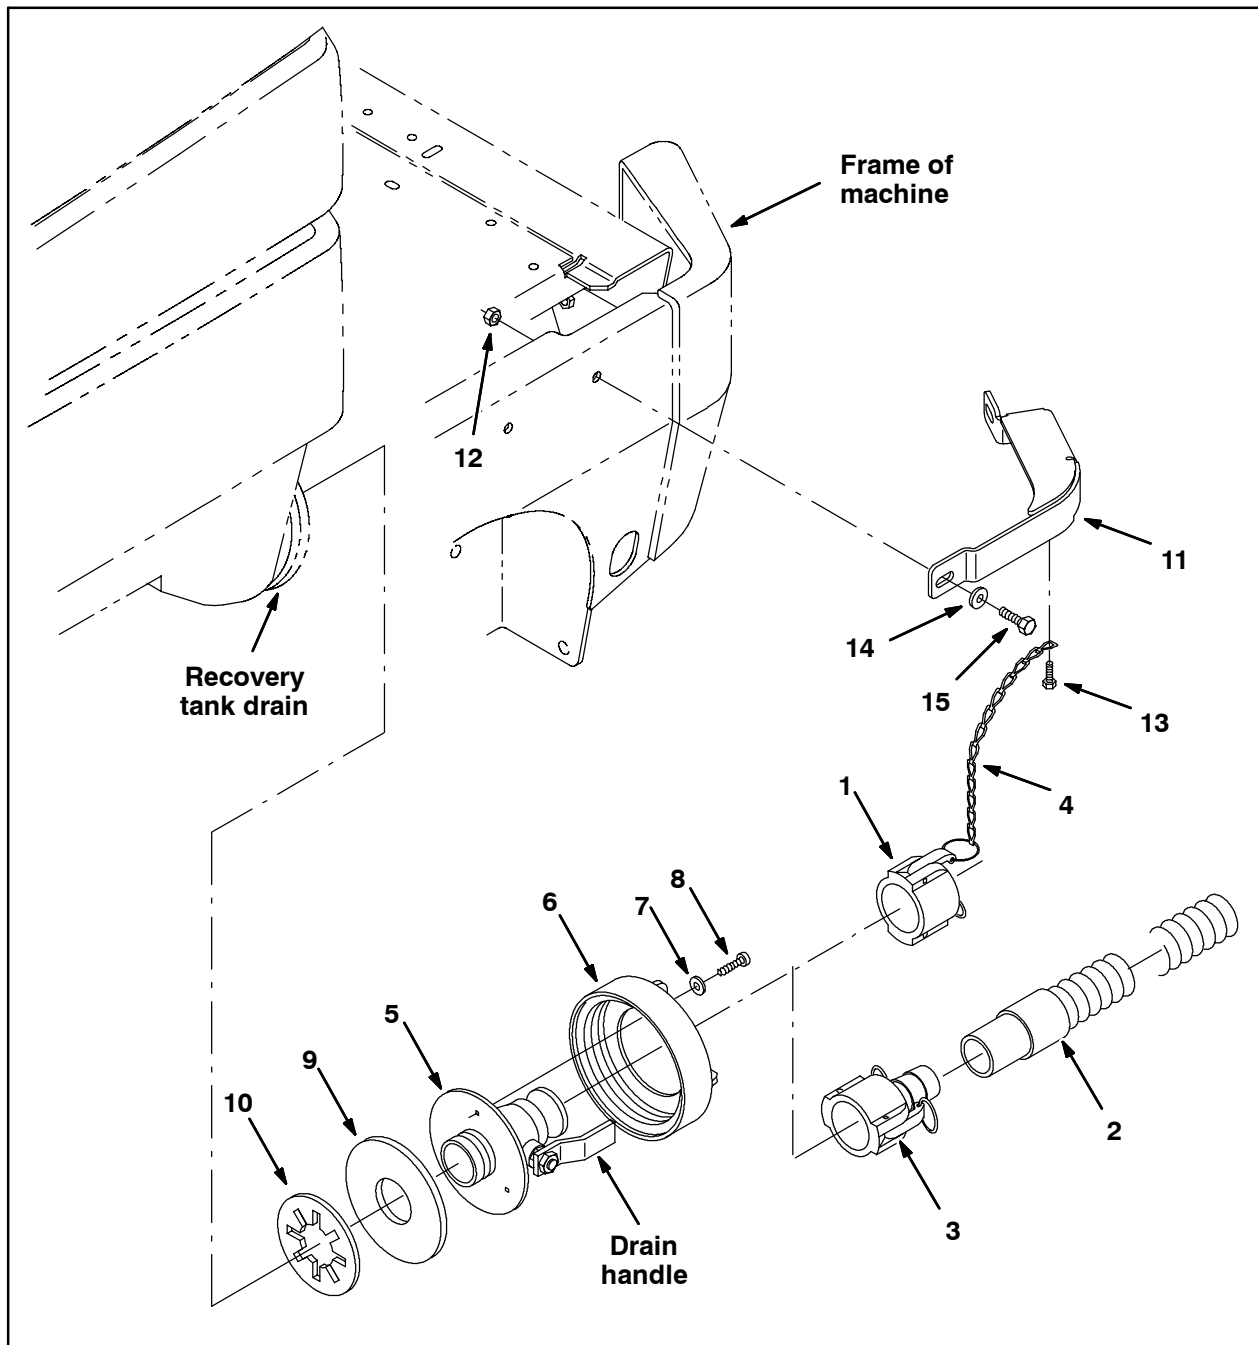

FIG. 1
2. Use three pan screws (8) and washers (7) to install the drain cap (6) to the ball valve (5). Refer to Fig. 1.
3. Install the gasket (9) and flat washer (10) onto the ball valve (5). Refer to Fig. 1.
4. Install the positive drain valve assembly assembled in the previous several steps onto the recovery tank drain. Refer to Fig. 1.
5. Use a hex screw (13) to attach the dust cap chain (4) to the side bumper (11). Refer to Fig. 1.
6. Use two hex screws (15), two flat washers (14), and two hex nuts (12) to install the side bumper (11) onto the left rear corner of the machine. Refer to Fig. 1.
7. Install the dust cap chain (4) onto the ring on the dust cap (1). Refer to Fig. 1.
8. Install the dust cap (1) onto the ball valve (5). Refer to Fig. 1.
10. Install the hose (2) onto the hose coupler fitting (3). Refer to Fig. 1.
12. To drain the recovery tank: Remove the cap (1) from the ball valve (5), connect the hose drain hose to the ball valve, position the hose next to a drain, and use the handle to open the ball valve / drain the recovery tank. Refer to Fig. 1.